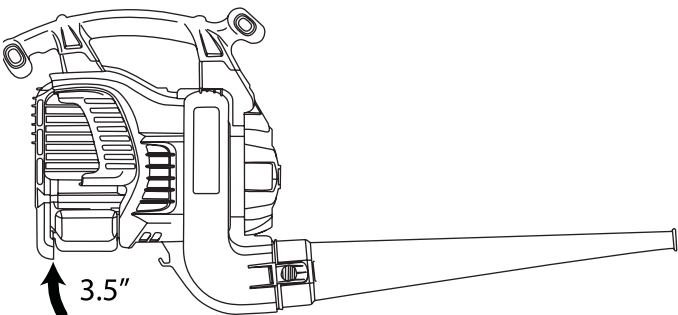

Fig. 21
2. Place the engine on a level surface (Fig. 21).
3. Raise the rear of the unit 3.5 inches to get a proper oil level reading (Fig. 21).